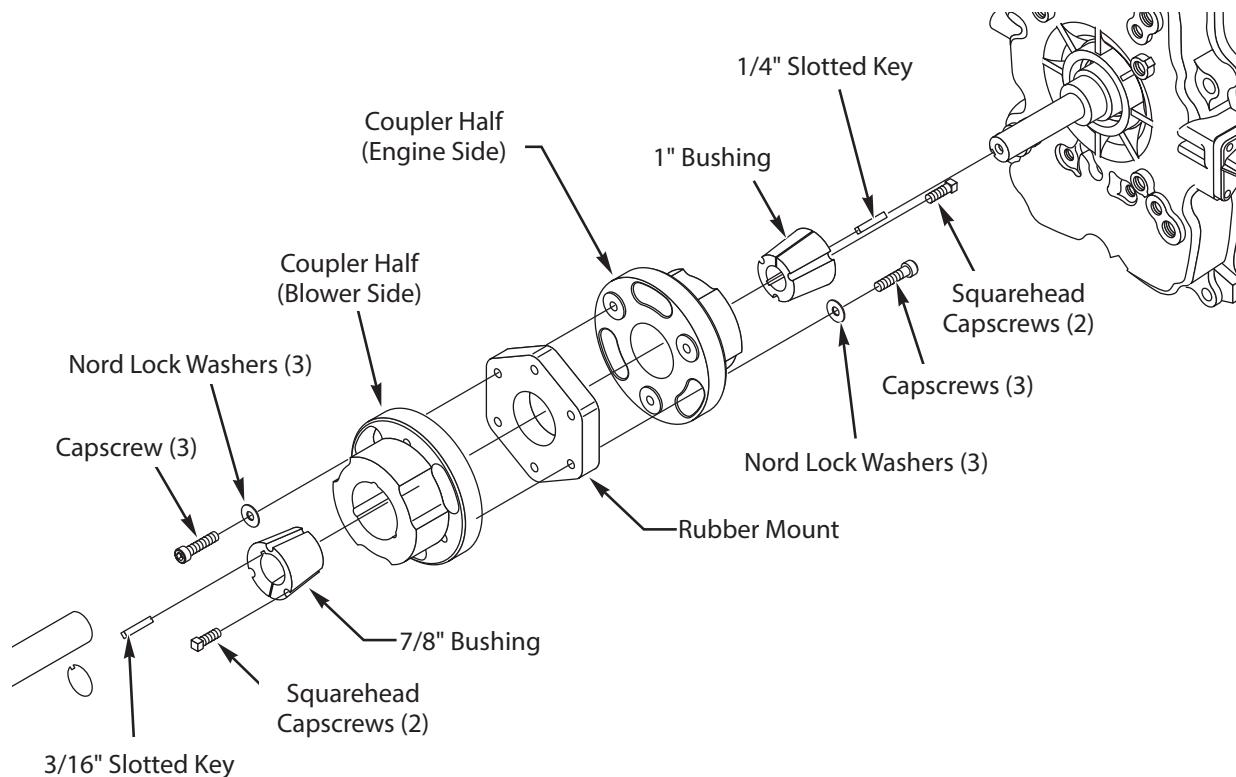

Figure 18 - Coupling Assembly
4. To remove coupling halves. Remove the 6 capscrews with nord lock washers (3 on the blower side, 3 on engine side). Then remove the 4 squarehead capscrews located on the bushings, inside the coupler halves.(2 on the blower side, 2 on engine side). Take 1 squaredhead capscrew and tighten in the center hole of both the blower and engine bushing. Break loose from the shaft. Reference Figure 18.